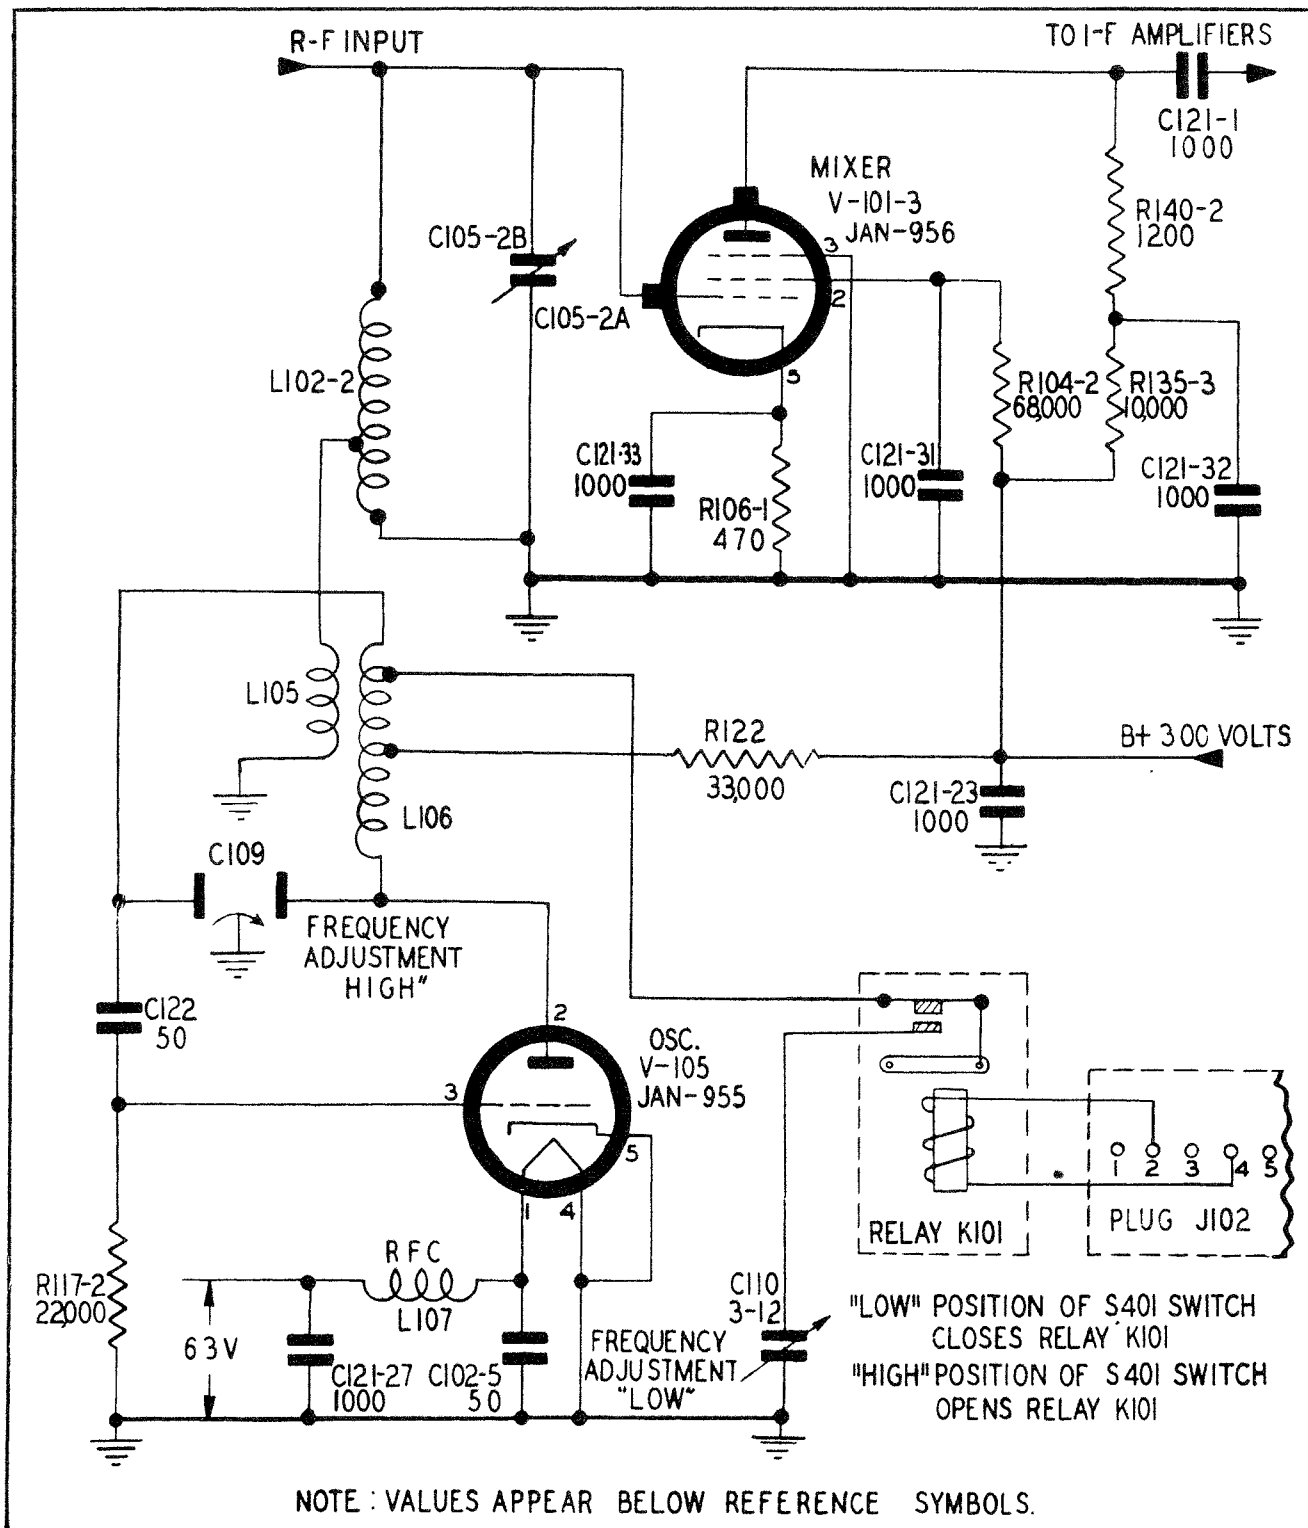

Figure 4-3. Receiver Oscillator and Mixer Stages, Sectional Diagram
2. The oscillator consists of an acorn tube JAN-955 in a series-fed Hartley circuit shown in figure 4-3. The output of this stage is fed to the tap on the mixer inductance. A tap on oscillator coil L106 can be connected to capacitor C110 by actuating relay K101. This relay is controlled by the "HIGH-LOW" switch on the control box and provides for the shifting of the oscillator frequency, thus allowing the remote selection of two pre-adjusted receiver frequencies.